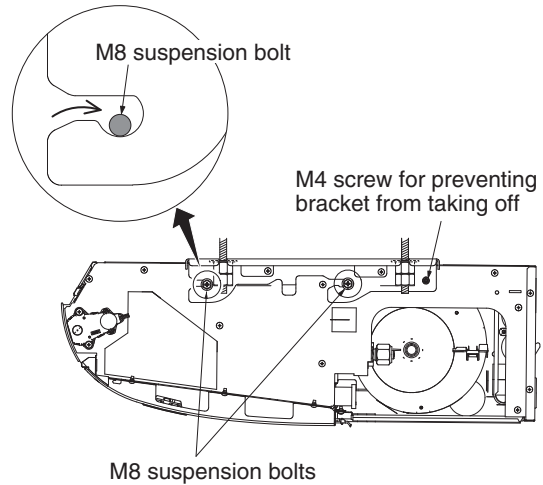

Fig. 3-17
- b) Suspend the indoor unit to the bracket. Tighten the M8 suspension bolts and fix the indoor unit in place. (Fig. 3-17)